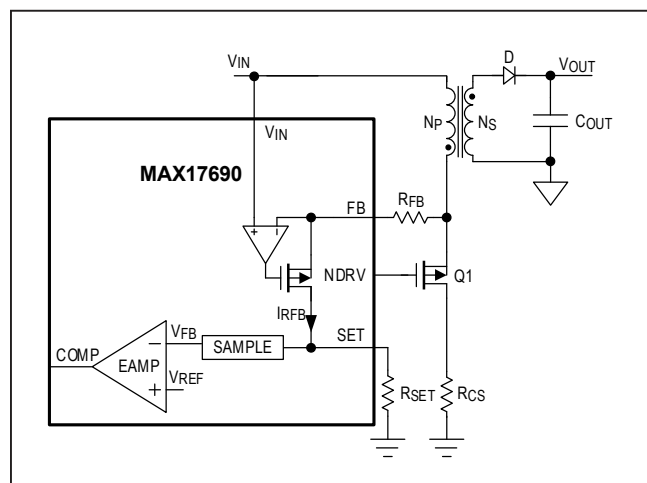

Figure 1. Simplified Diagram of No-Opto Flyback Operation
The MAX17690 senses the drain-node of the primary nMOSFET (Q1) while the secondary diode (D) is conducting (see Figure 1). During this sensing period, the drain-node voltage is the sum of the input voltage and reflected secondary winding voltage. Using an internal differential amplifier, the MAX17690 generates a current (I_{RFB}) in the feedback resistor (R_{FB}), which is proportional to